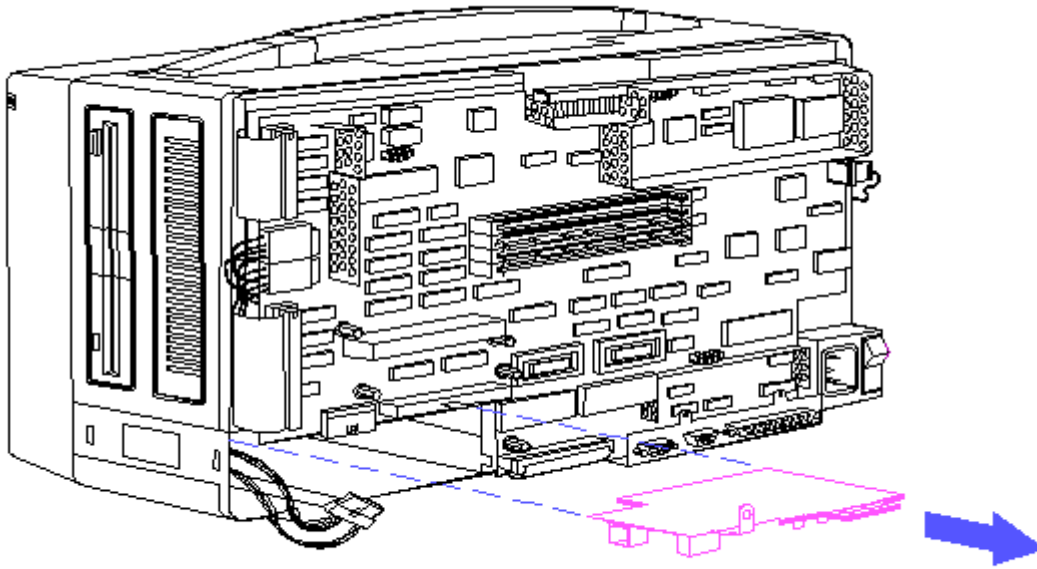

Figure 8-18. Removing the Internal Modem
8. Slide the internal modem out of the options compartment and set it aside (Figure 8-18).